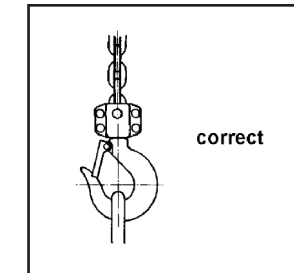

FIG 5
3. Correctly center the load on the bottom hook (FIG 5). Incorrect loading is dangerous to the operator, the lever hoist, and the load.